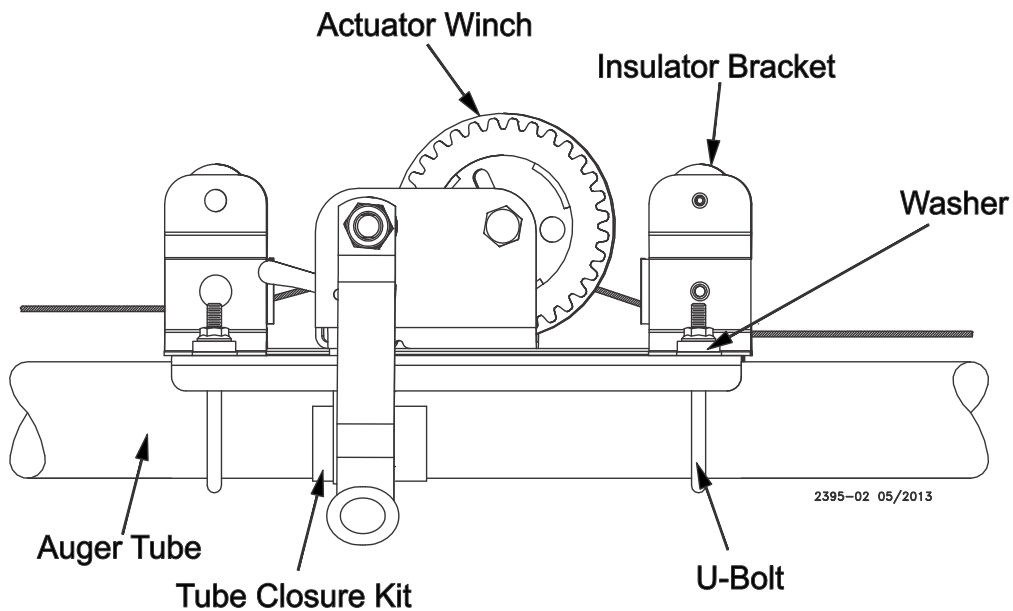

Figure 13. Actuator Winch Stop
2. Install one (1) stop on the actuator winch cable as shown, see **Figure 13**.